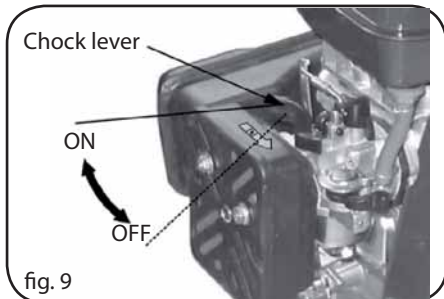

fig. 9
5. Gradually move the choke lever to the OPEN position. Warm up the engine until it runs smoothly (Fig. 9).